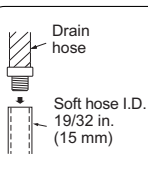

Fig. 2
- If the drain hose provided with the indoor unit is too short, connect it with drain hose (I) that should be provided at your site. (Fig. 2)